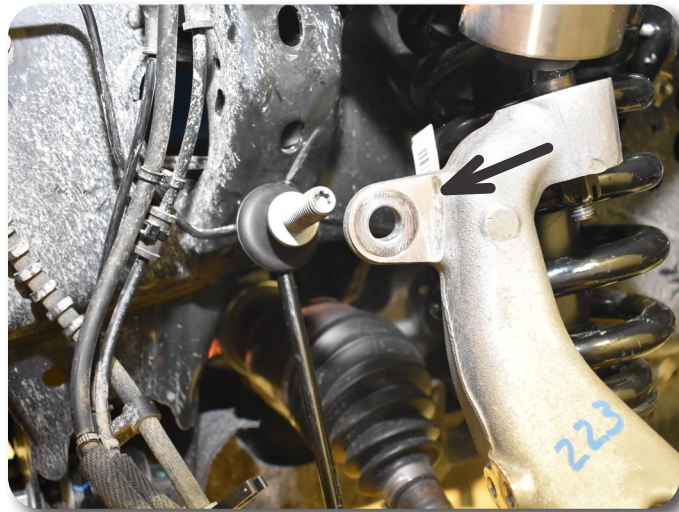

Figure 1
5. Disconnect the driver's and passenger's side front sway bar links from the steering knuckle. **Figure 1**